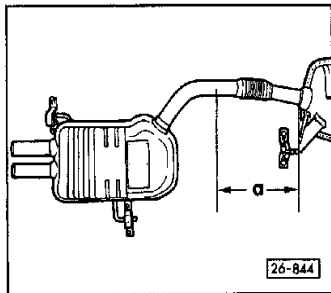

Fig. 1 Separation point between centre silencer and tail silencer
- Separation point between centre silencer and tail silencer ⇒ page 26-5 Fig. 1
- Pressing out \Rightarrow Fig. 1